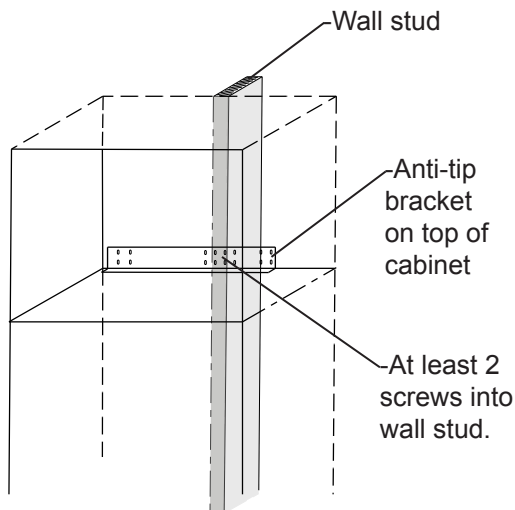

Figure 8
The anti tip bracket is fastened to the cabinet and runs the full width of the cabinet. Locate a wall stud behind the cabinet and secure the anti-tip bracket with at least (2) #8 x 1½" screws provided. See Figure 8.